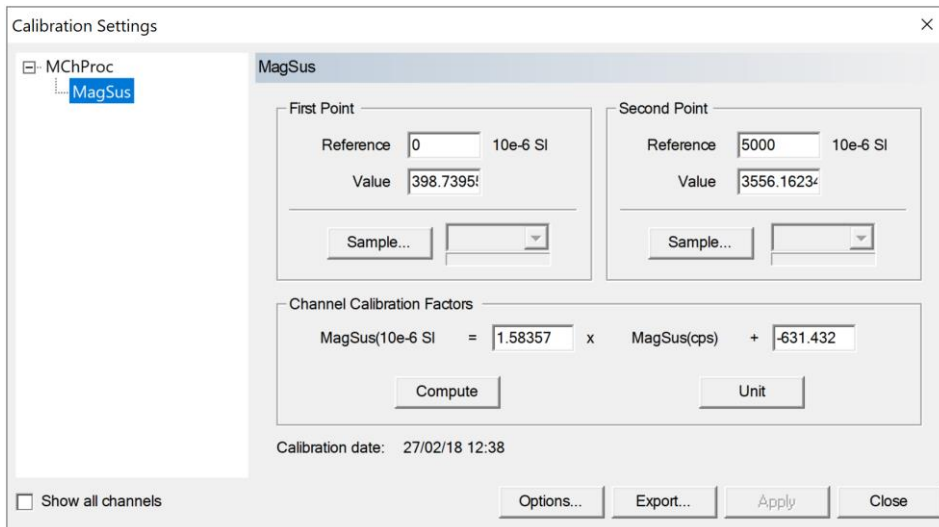

Figure 4-15 Calibration Settings window
- Enter **0** as the **Reference** for the **First Point** in the **Calibration Settings** window (**Figure 4-15**). Click **Sample....** Wait until the bar loads. After loading, a new value will appear in the **Value** for the **First Point**.
- Enter **5000** (or the value stamped on the puck) as the **Reference** for the **Second Point** in the Calibration Settings window (**Figure 4-15**). Click **Sample....** Wait until the bar loads. After loading, a new value will appear in the **Value** for the **Second Point**.